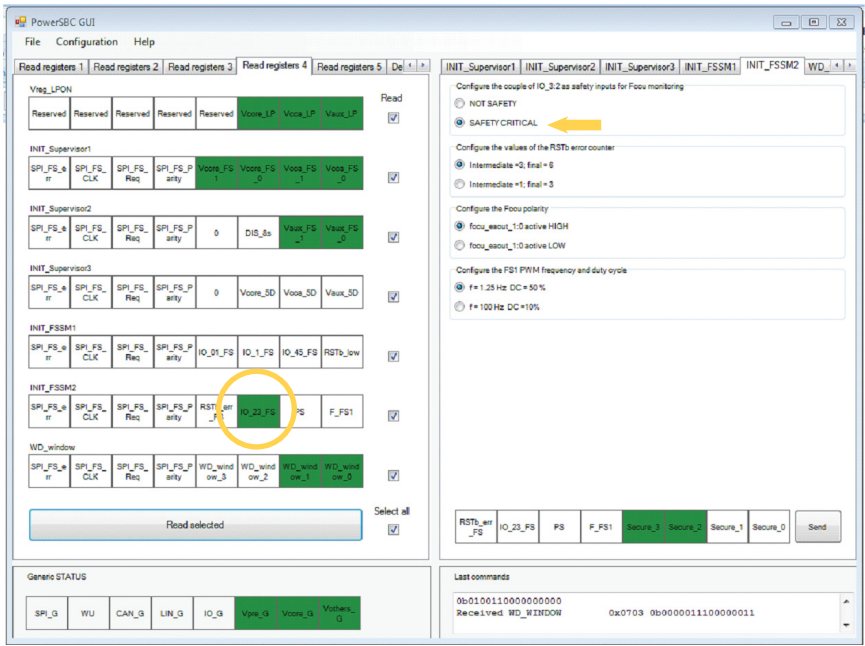

Figure 14. MC3390X_GUI Main Screen
3. A screen similar to the one in Figure 14 appears showing the status of the registers at startup. In this example, register INIT_FSSM2 has bit IO_23_FS configured as SAFETY CRITICAL.